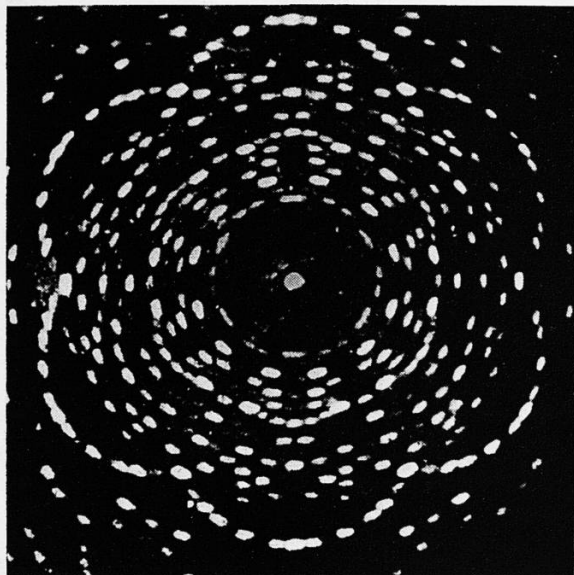

**Figure A49**
The field-ion microscope has provided evidence of the regular arrangement of atoms in metal crystals. Gas ions are created close to the sharp point of the metal specimen, then accelerated away radially to hit a fluorescent screen and produce an image of the metal surface. More ions are produced near prominent atoms, so these points show up as bright spots on the screen (figure A49). A grain boundary between two crystallites is visible. Within each grain of the metal, the atoms are arranged in the same regular structure, but the relative orientation of the atoms between crystal grains is different.
- e Find out how a field-ion microscope works. (You may not fully understand the principle until you have studied Unit E, 'Field and potential'.) In figure A49 you are not looking at atoms directly. What are the bright spots on the picture?